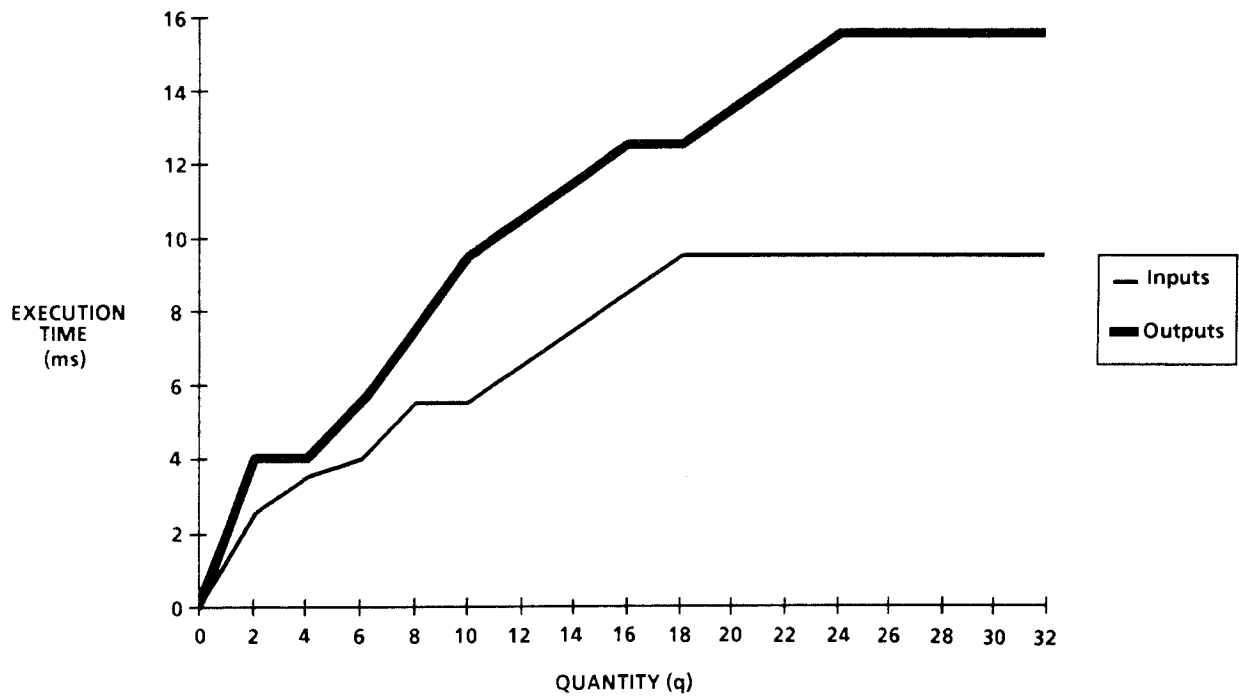

Figure 2.4 Execution Times for Inputs and Outputs
- (4) T_i = Plant inputs - total time taken for all plant inputs. To calculate T_i count the number of inputs and use the graph in Figure 2.4 to estimate the value.
- (5) T_o = Plant outputs - total time taken for all plant outputs. To calculate T_o count the number of outputs and use the graph in Figure 2.4 to estimate the value.